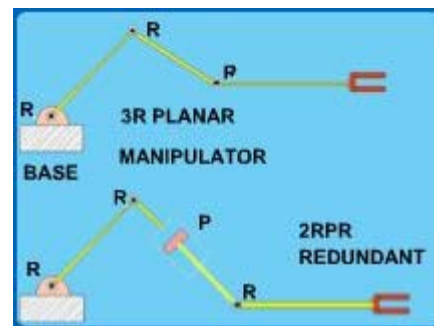

Figure 4.1.2
- 3R planar manipulator is shown in Figure 4.1.2
- 2RPR planer manipulator is shown in Figure 4.1.2